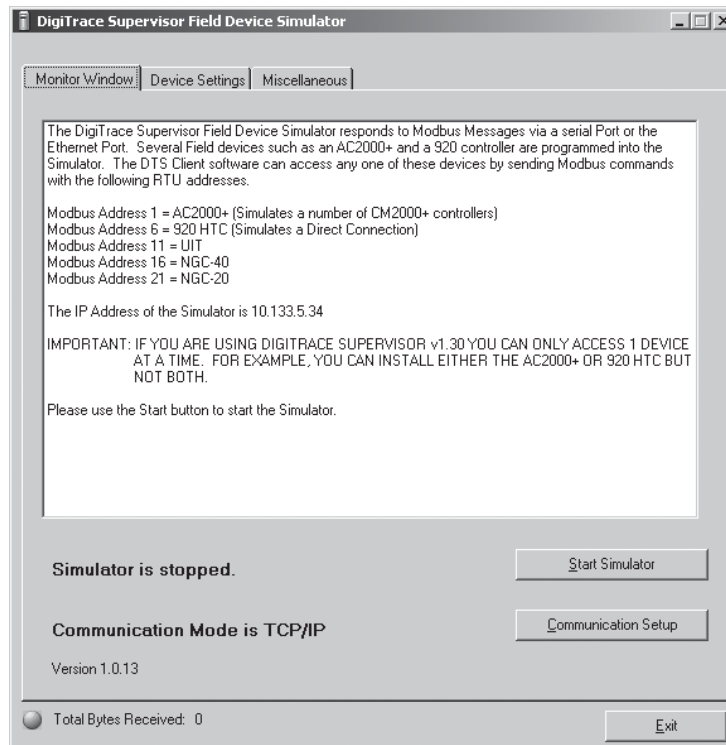

Figure 1-2 Main screen
2. When the Simulator program is running, the main screen will be displayed (see Figure 1-2).
3. The default communication mode for the Simulator emulates a LAN (network) connection to field devices using TCP/IP. Make note of the IP Address shown on the Simulator's main screen, as you will use this later when installing simulated field devices into DigiTrace Supervisor. This IP address will be unique to your computer (it is 10.133.5.34 in the example above – see Figure 1-2).
6. Future versions of the Simulator software will support new DigiTrace field devices. The address assignments of new field devices are displayed in the Simulator’s main screen (See Figure 1-2). Please check this screen when you have installed a newer version of the Simulator. Follow the same installation procedure as described in Sections 1.4 to 1.6 to install the new devices.